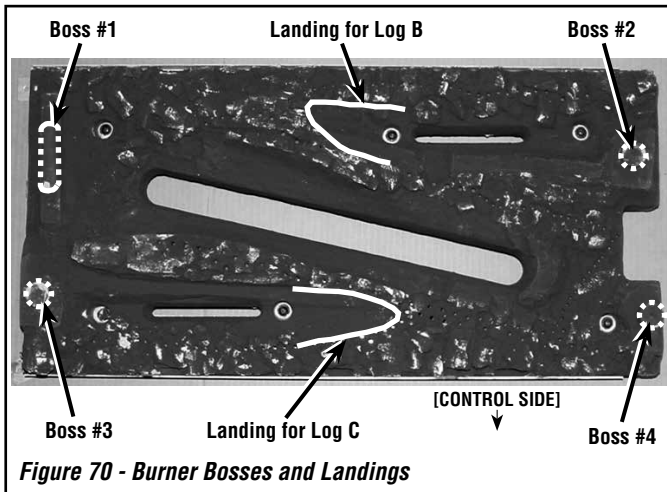
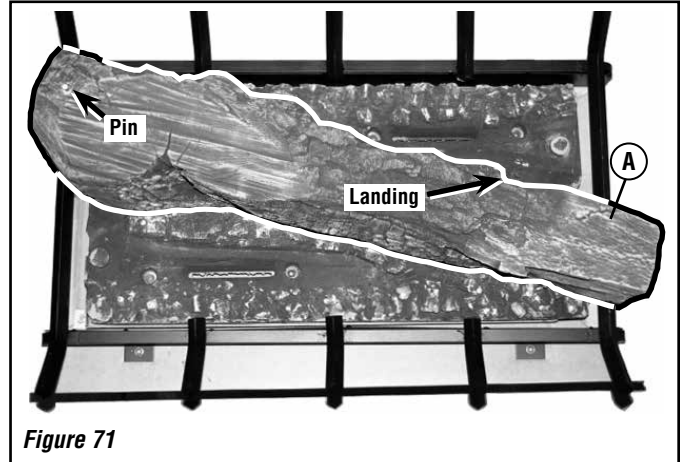
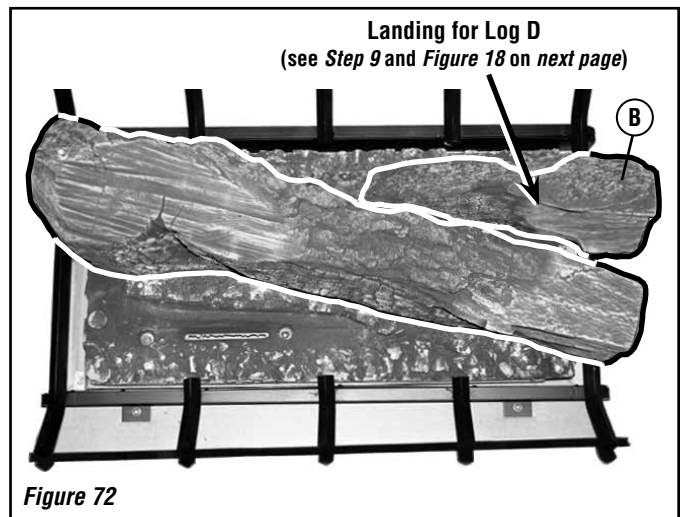

Figure 70 - Burner Bosses and Landings
Figure 71
Figure 72
6. Place rectangular notches on underside of Center Log A (Figure 71) over Boss #1 and Boss #4 (Figure 70).
7. Place notch on underside of Right Rear Log B (Figure 72) over Boss #2 (Figure 70).
Place opposite end of **Right Rear Log B (Figure 72)** on **Landing for Log B** (see **Figure 70**).
8. See Figures 70 and 73. Place notch on underside of Left Front Log C over Boss #3.
Place opposite end of **Left Front Log C** on **Landing for Log C** (see **Figure 70**).
The middle section of **Log D** will rest on the landing on **Log B** (labeled as "**Landing for Log D**" in **Figure 72**).